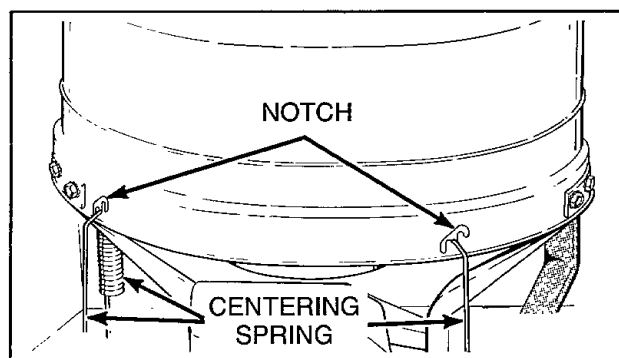

Figure 40
**IMPORTANT:** If the trigger repeatedly trips the out-of-balance switch lever, check the centering of the agitator within the loading door opening. At the factory the centering springs are positioned in the center notch, *Figure 40*. Centering springs may have to be moved to the upper or lower notch to center the agitator within the door opening.